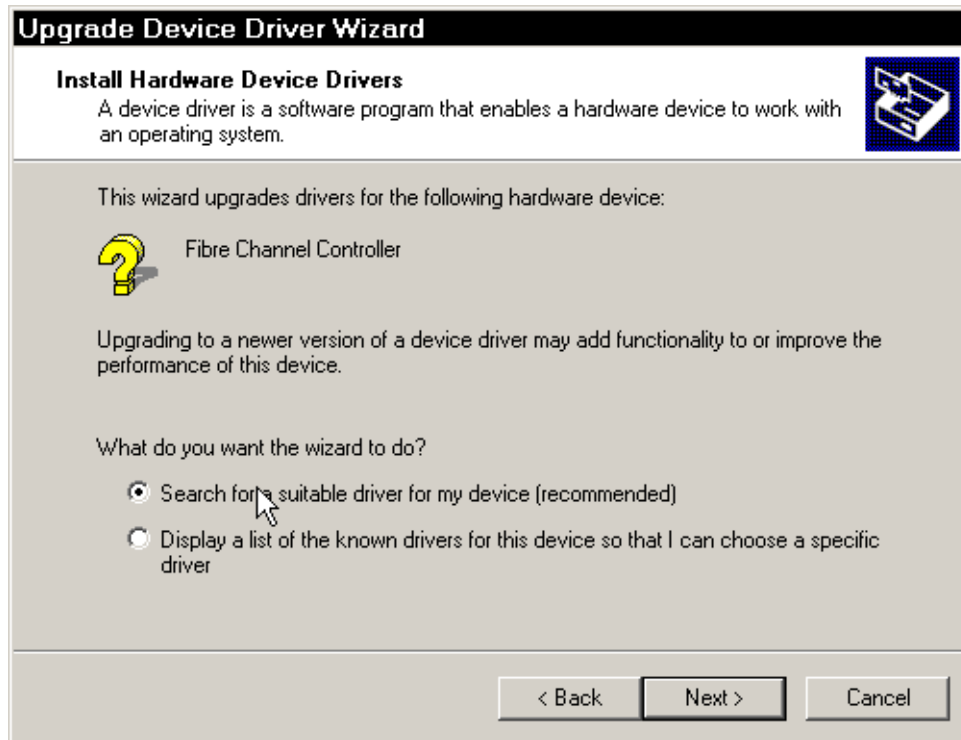

Figure 4 Driver source selection dialog
9. Select the Search for a suitable driver for my device (recommended) option, as shown in Figure 4.